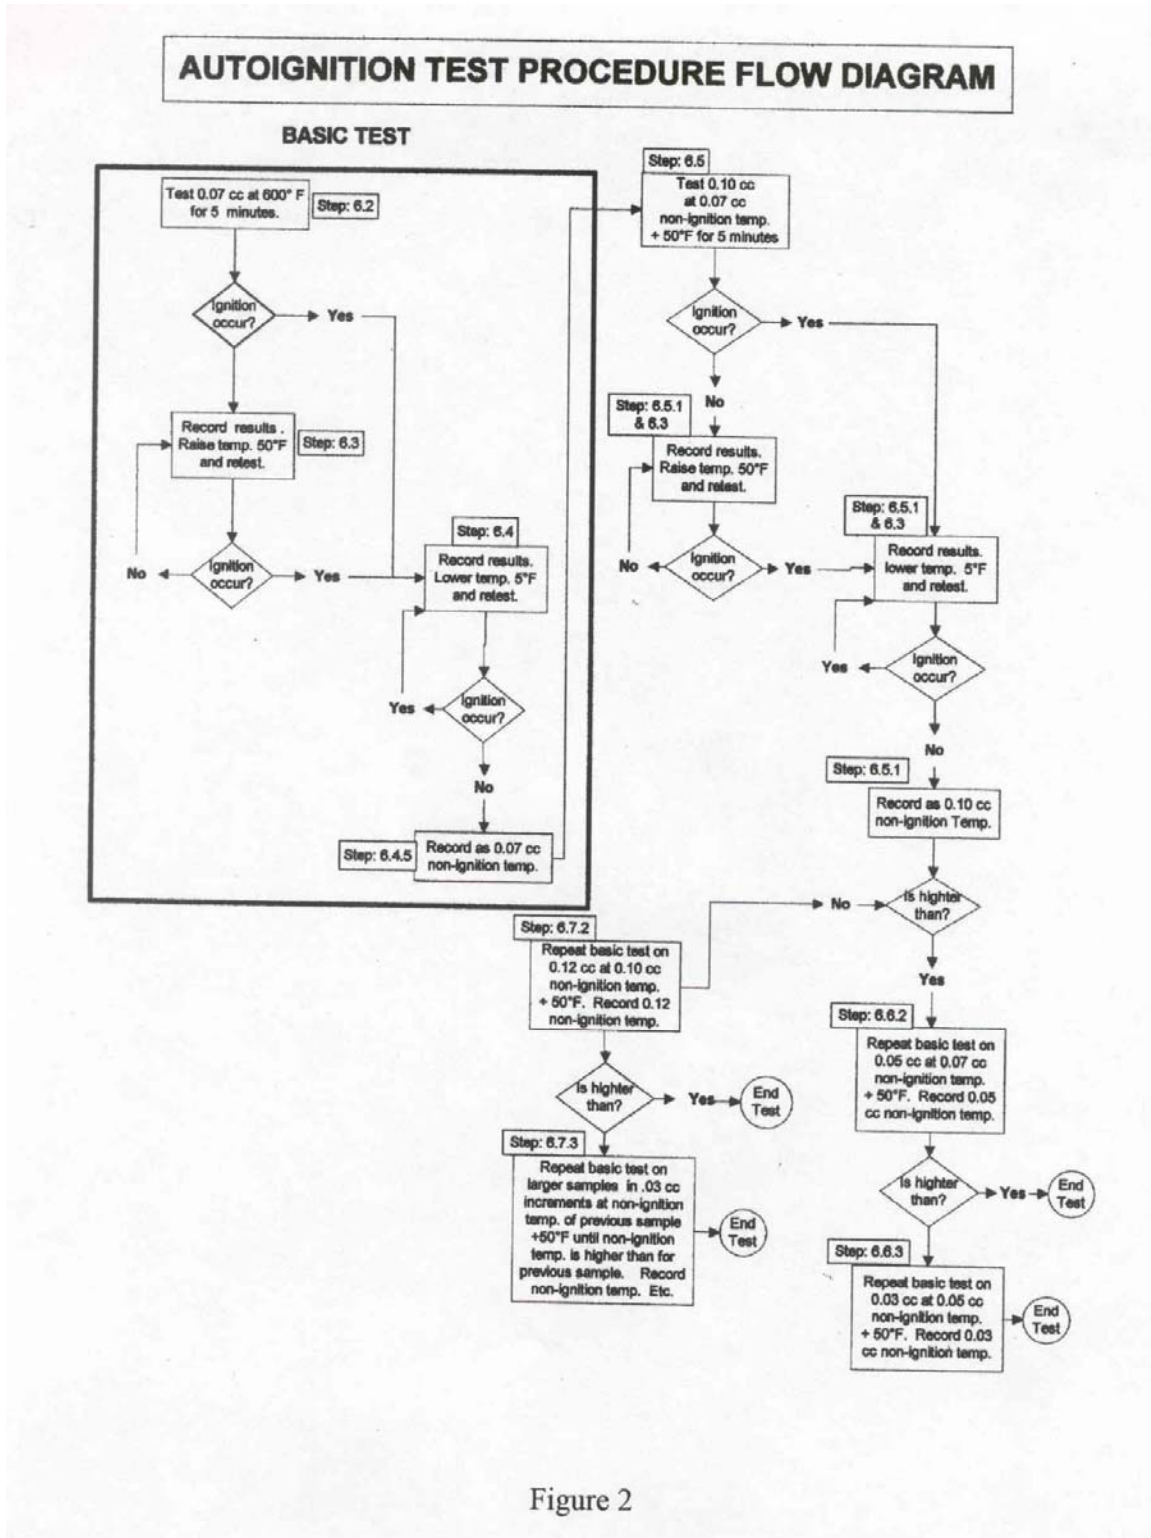

Figure 2
- review the "Autoignition Test Procedure Flow Diagram" (Figure 2),